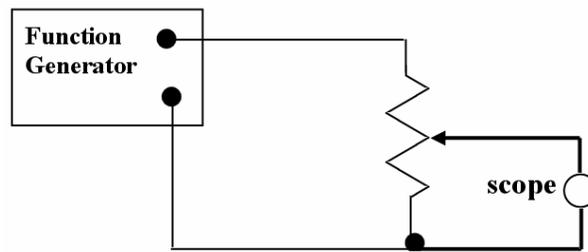

Figure 1: AC level control.
2. *AC level control:* Use a potentiometer to attenuate an AC signal as shown in Fig. 1. This is the essence of an audio volume control. Use two inputs: channel 1 for the input from the function generator and channel two for the attenuated output. Paste a copy of the display with output attenuated by a factor of into your notebook.